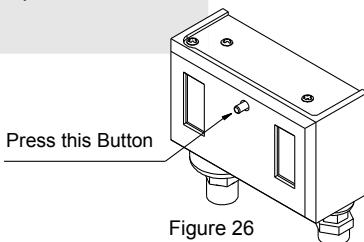
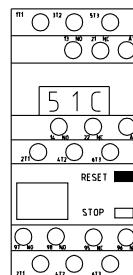

Figure 26
Figure 25
Please open power distribution box See Figure 26.(refer to figure 19,20,21) to find the 51P contactor, and press "RESET" button. (See Figure 25.)
- 1 Please refer to figure 19,20,21 to find the 51C contactor, and press "RESET" button. (See Figure 25.)